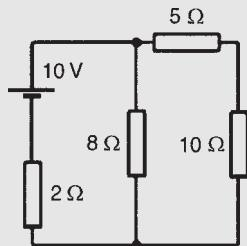

Figure 13.54
**Problem 13.** Use Norton’s theorem to determine the current flowing in the  $10\Omega$  resistance for the circuit shown in Fig. 13.54